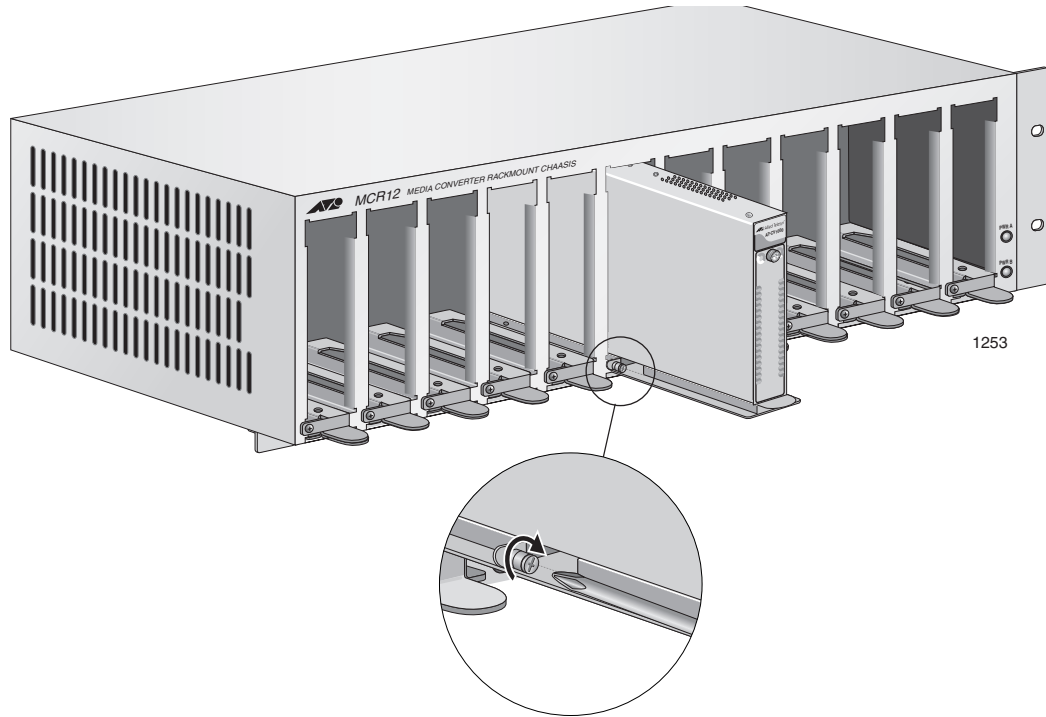

Figure 15. Tightening the Captive Screw on the AT-CVMCR Adapter
7. Tighten the captive screw on the AT-CVMCR adapter to secure the AT-CV1000 in the chassis, as shown in Figure 15.